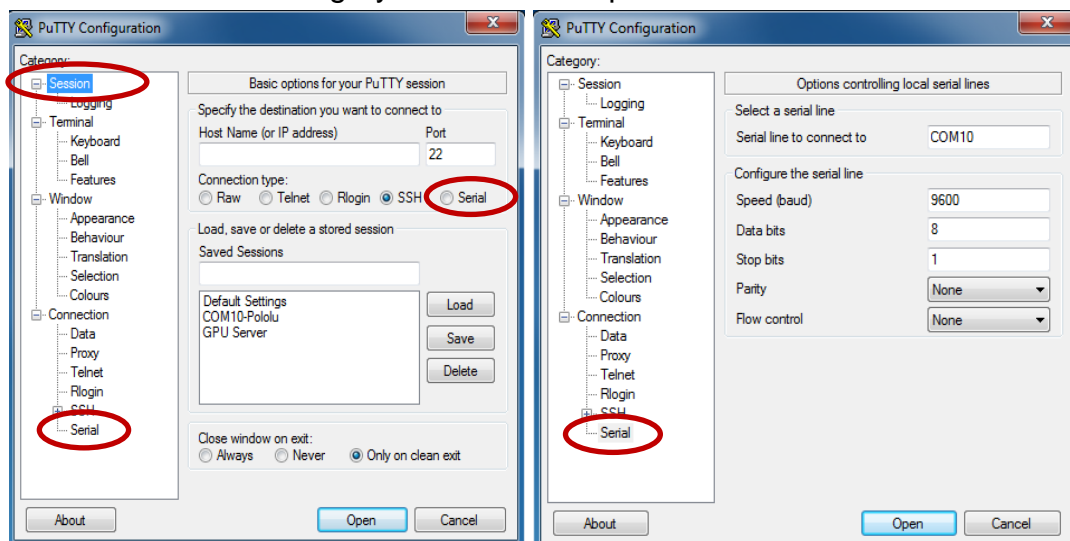

Figure 4 Putty Session window (left) and Serial setting page (right).
- Open the Putty terminal in Windows, which will open a window similar to Figure 4. Select the “Serial” category for further setup.